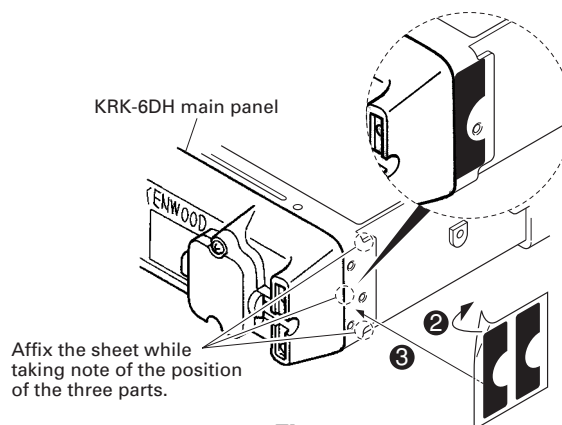

Fig. 3-1-2
4. Affixing the sheet (G11-4379-04) for the waterproof (Fig.3-1-2).
(1) Remove the covering paper of the sheet (2).
(2) Affix the sheet while taking note of the position of the three parts as shown in Fig.3-1-2 (3).